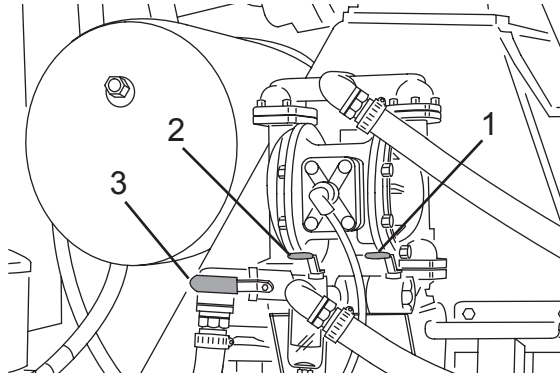

Figure 85
2. Close the purge valve (Figure 85, Item 1) at the pump inlet.
3. Open the main tank ball valve (Figure 85, Item 2) or chemical tank ball valve (Figure 85, Item 3) (if equipped) for the desired tank/water source.